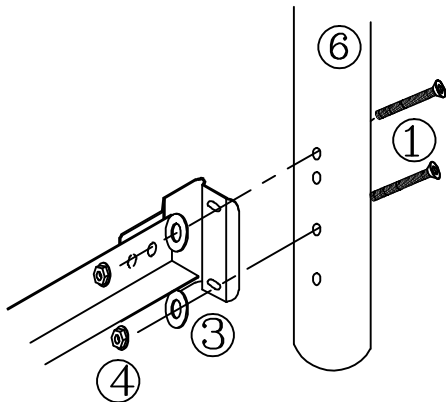
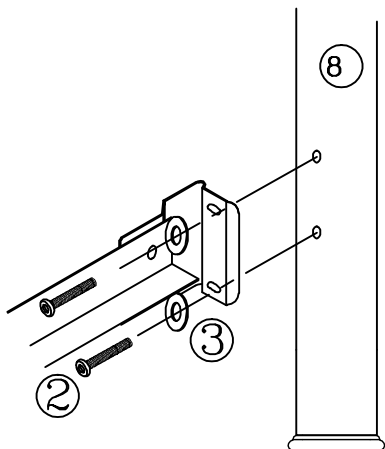

FIGURE 2
FIGURE 3
- Now carefully insert extension legs (6) into bottom of headboard (7) posts.
- Place 2 screws (1) through holes located in leg (6). (See Figure 2)
- Place a flat washer (3) first over the screw (1) then a hex nut (4) on each screw (1). Hand-tighten, DO NOT TIGHTEN screws all the way.
- Tighten all screws securely using the Allen wrench (5).
- Position foot board panel (8) and align holes in the post with holes in the frame bracket. (See figure 3)
- Place washer (3) over on each screw (2). Insert through bracket and into foot board post (8). Hand-tighten DO NOT TIGHTEN screws all the way figure 3)